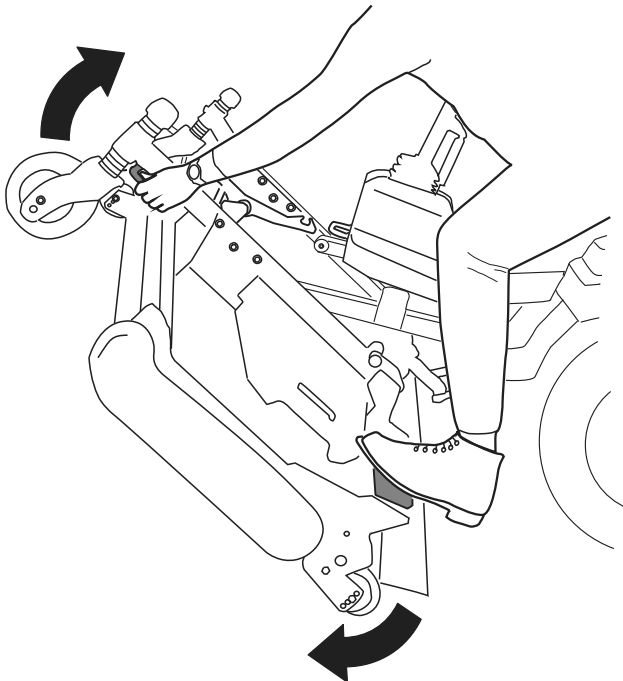
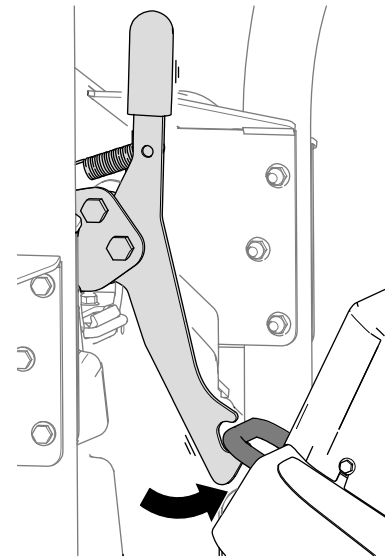

Figure 36
Figure 37
5. Rotate the cutting unit (Figure 36) so that the latch engages with the tie-down bracket (Figure 37).
1. Release the cutting-unit latch from the tie-down bracket (Figure 38) by slightly rotating the cutting unit slightly forward (refer to Figure 36) and pulling the latch handle forward.